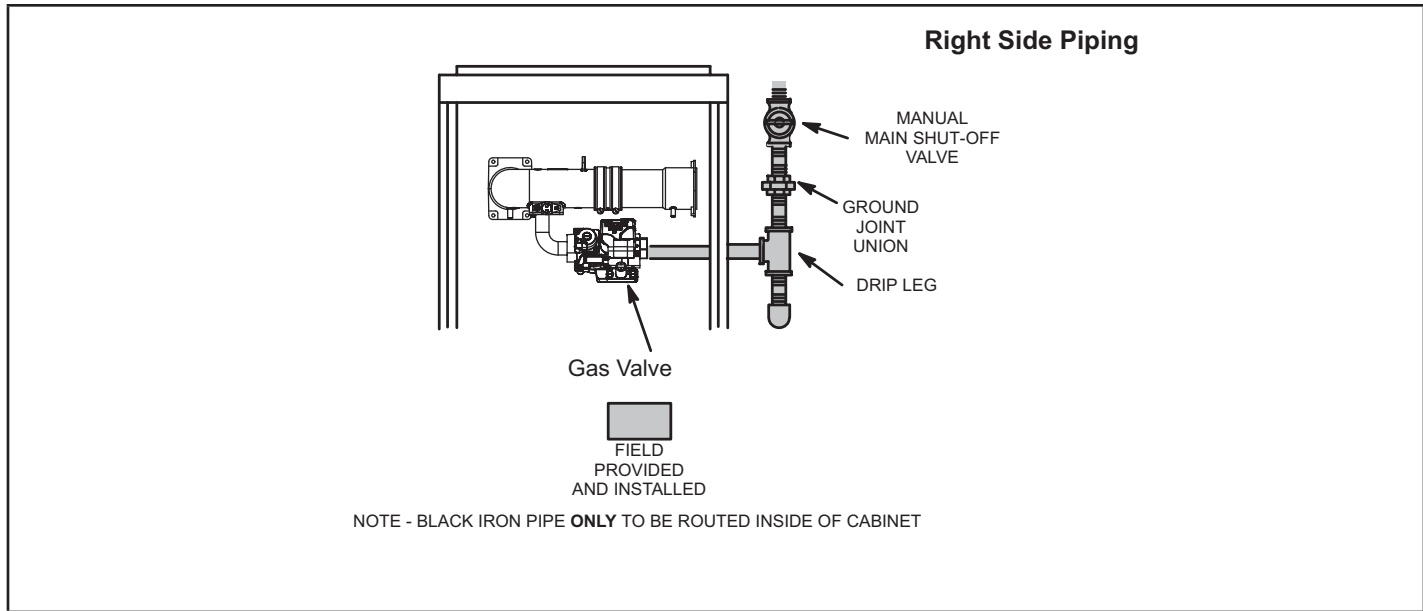
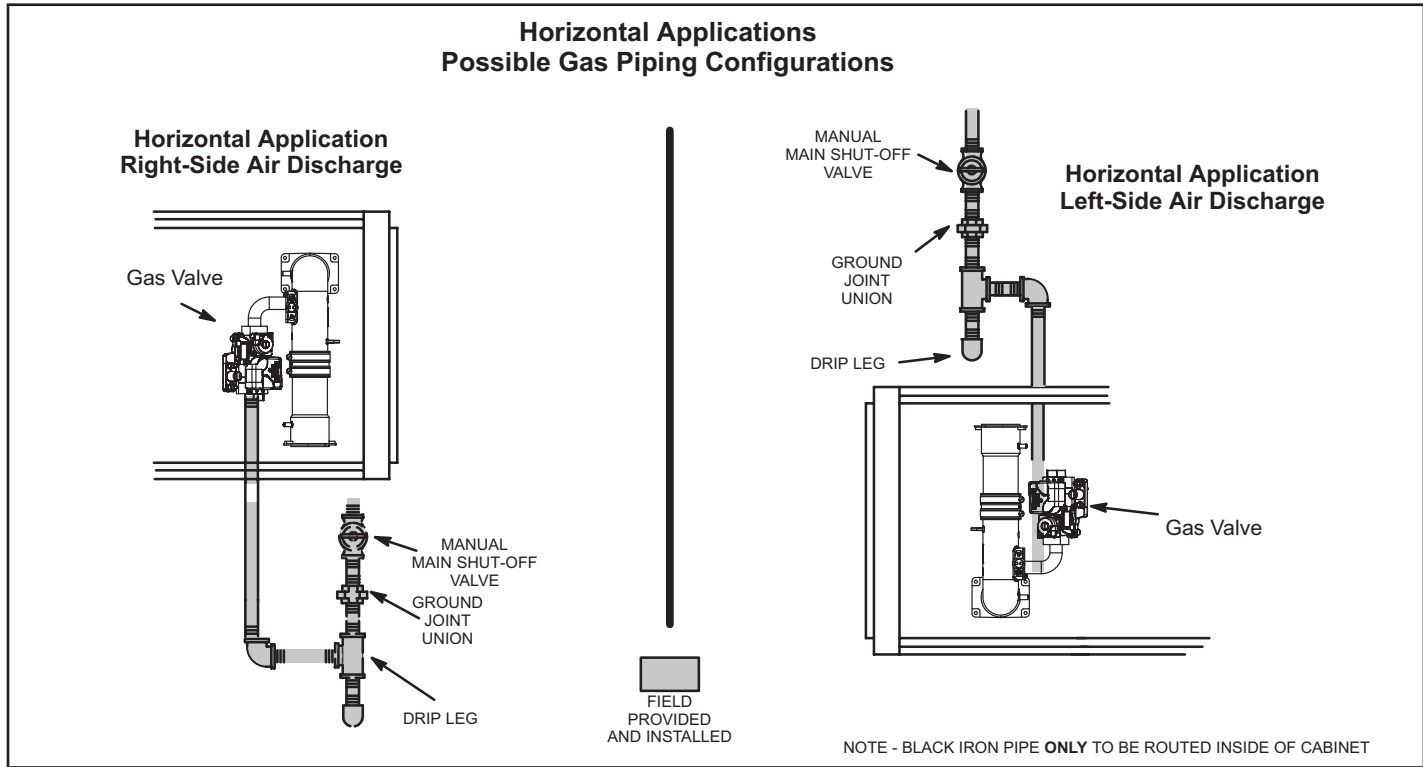

FIGURE 44
FIGURE 45
- 1 - Gas piping may be routed into the unit through the right-hand side only. Supply piping enters into the gas valve from the side of the valve as shown in FIGURE 44. Connect the gas supply piping into the gas valve. The maximum torque is 800 in lbs and minimum torque is 350 in lbs when attaching the gas piping to the gas valve.
- 3 - Gas piping must not run in or through air ducts, clothes chutes, chimneys or gas vents, dumb waiters or elevator shafts. Center gas line through piping hole. Gas line should not touch side of unit. See FIGURE 44 and FIGURE 45.